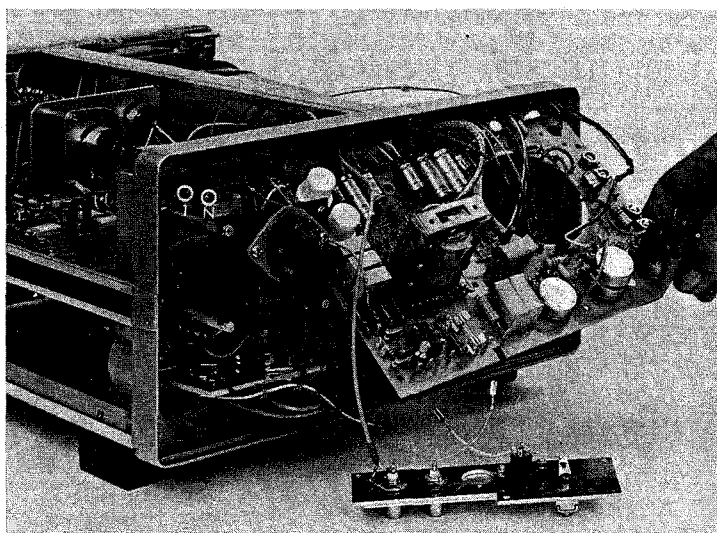

Fig. 3.20. Supply unit swiveled out
- Swivel the board out of the instrument (Fig. 3.20.)